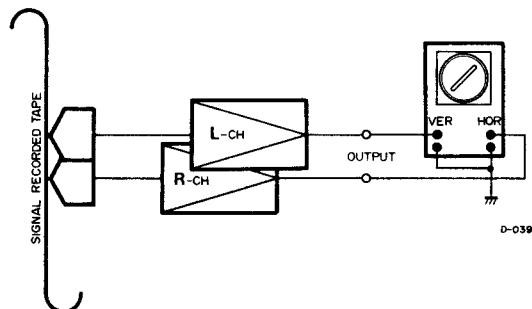

Fig. 7-3 Fine Adjustment Set-up -Head Azimuth-
6. Connect the test equipment as shown in Fig. 7-3.